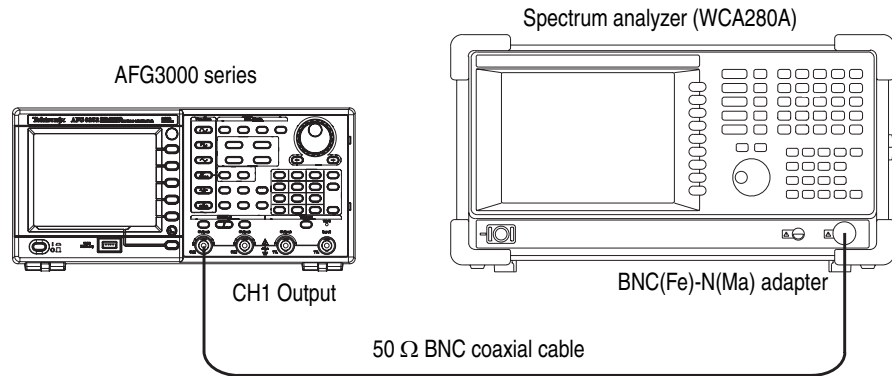

Figure 4-8: Total Harmonic distortion tests
1. Connect the arbitrary/function generator to the spectrum analyzer as shown in Figure 4-8.